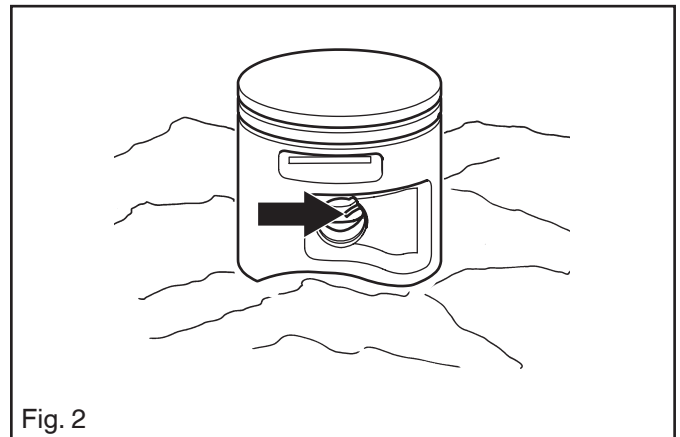

Fig. 2
6. Remove one of the piston's circlips, press out the gudgeon pin, and remove the piston. See fig. 2.